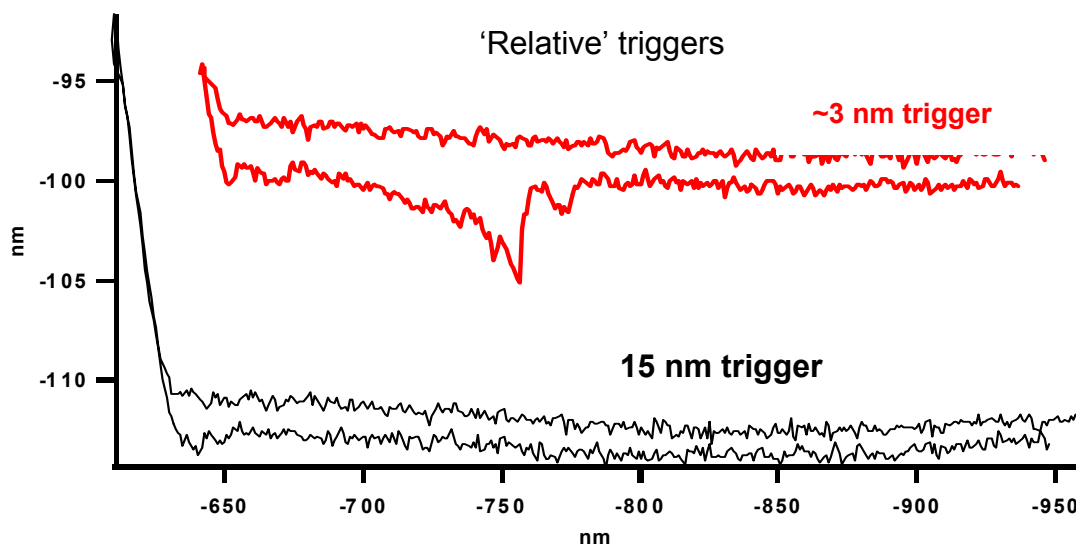

Figure 25: Relative Triggers in deflection channel: 3 nm (red); 15 nm (black)
Relative trigger is more sensitive and should be used for more accurate force distance curve acquisition. You have to play with the trigger point here because a very low one can put you down in the noise level of your system/ cantilever. Figure 25 below is an example of two curves obtained with different absolute trigger points. The upper curve (red) has a lower trigger point than the lower (black). Low relative trigger values appear noisy because they are auto scaled in the y axis. *(relative trigger is (0) in parameter file list)*